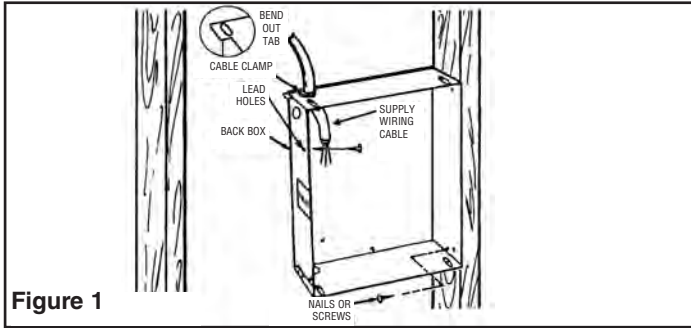

Figure 1
13. When wiring, power supply must enter through knockouts in left side of back box. Do not use the knockouts in right side back box. Refer to Fig. 1.
4. Position back box against side with studs or ceiling joist and secure with nails or screws as shown in Figure 1.
NOTE: The back box must be installed to a wall stud or ceiling joist and secured using nails or screws as shown in Figure 1.
NOTE: Lead holes for a #8 sheet metal screw have been provided in the sides of the back box. After the finished wall or ceiling has been put up, drive a #8(m4) sheet metal screw (recommended 1"(25mm) long) through the side of the box not mounted to the stud. This will prevent the back box from pulling out when installing the heater assembly. (See Figure1)
1. The edge of the back box must be installed flush with the finished surface. Determine which side of the back box is to be mounted against a stud or joist and **bend the tabs at the rear corners out 90 degrees so that the back box will be square with the stud after installation.** (See Figure 1).
NOTE: Lead holes for a #8 sheet metal screw have been provided in the sides of the back box. After the finished wall or ceiling has been put up, drive a #8(m4) sheet metal screw (recommended 1"(25mm) long) through the side of the box not mounted to the stud.(joist) This will prevent the back from pulling out when installing the heater assembly. (See Figure 1)